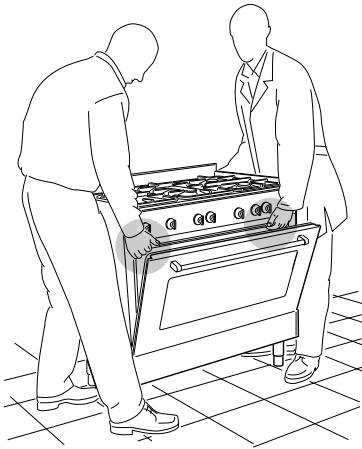
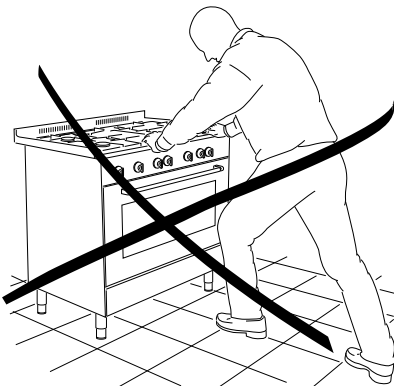

Fig. 8.5
Fig. 8.7
When raising cooker to upright position always ensure two people carry out this manoeuvre to prevent damage to the adjustable feet (fig. 8.5).
*When moving cooker to its final position **DO NOT DRAG** (fig. 8.7). Lift feet clear of floor (fig. 8.5).*